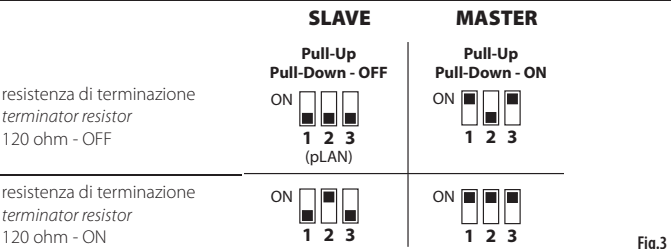

Fig.3
COM1 (2), COM2 Serial ports	RS485 max 115,2 Kb/s Removable screw connector 3,81mm pitch Shielded twisted pair cable AWG 20-22 for ± Lmax = 500m - tightening torque 0.25Nm (2.2lbf x in) Master/Slave set via dipswitch (Fig.3)